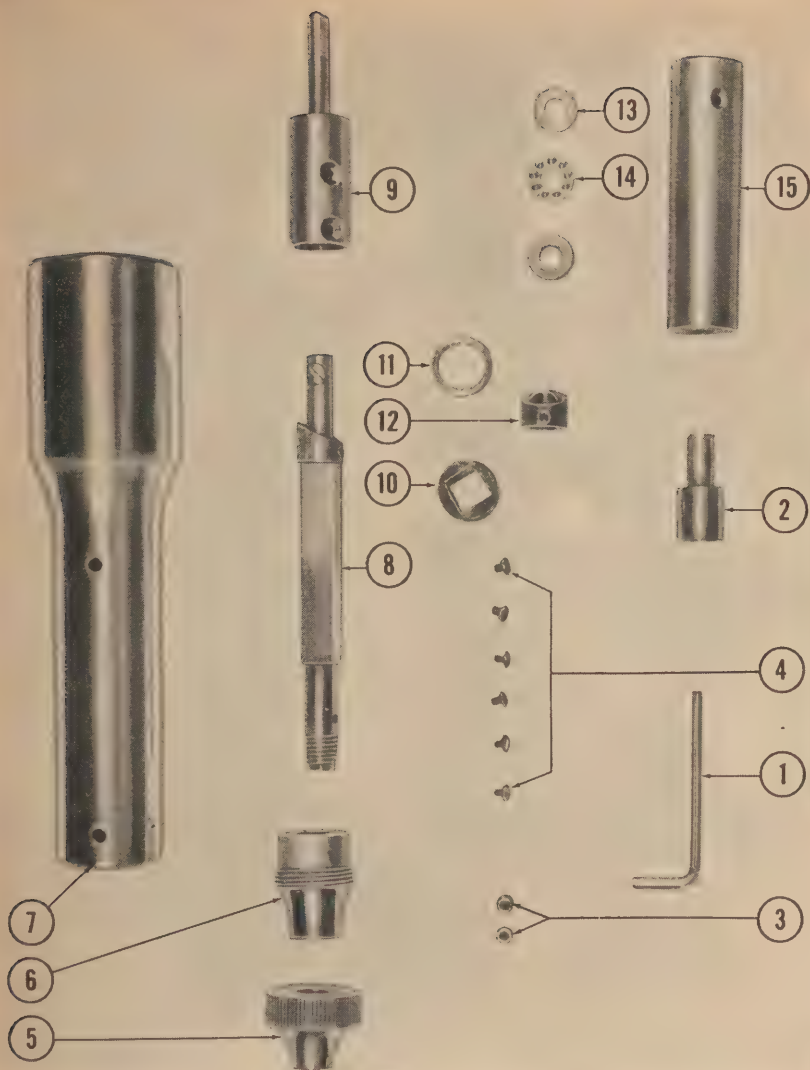

Figure 5. The reciprocating attachment assembly showing all parts.
**a.** WRENCH, Setscrew, Bristo No. 8: SR00193 (figs. 5 and 7).
(3) Insert the small end of adapter into chuck.
(4) Using key, tighten the chuck securely.
(5) Screw on the reciprocating attachment. Care must be used to prevent stripping of threads.
(6) Attach saws or chisels to reciprocating attachment, screw chuck, 3R00130 (fig. 5), on as far as possible, loosen one notch, and insert saw or chisel and tighten.
**13. TOOLS ISSUED WITH EQUIPMENT. a.** WRENCH, Setscrew, Bristo No. 8: SR00193 (figs. 5 and 7).